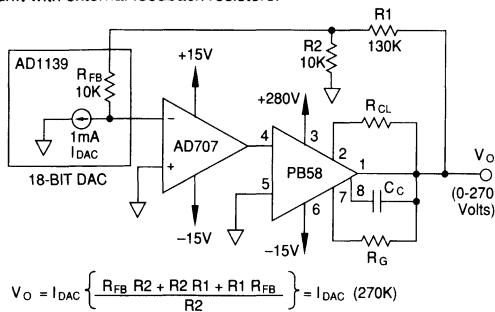

FIGURE 3. HIGH ACCURACY PPS
designer to optimize the circuit for these choices. Figure 3 is an example of a high accuracy PPS. An AD707 is selected as the driver amplifier to provide the extremely low offset required to obtain best possible performance from a high accuracy 18-bit DAC. The divider network on the output, R1 and R2, scale the output swing down to the full-scale range of the DAC. Accuracy will be affected by this divider, necessitating the use of high quality, low temperature coefficient (TC) resistors. If a packaged network can be used, then absolute TC is not nearly as important as TC ratio between R1 and R2. The use of this divider is preferable to the alternative technique of using an external DAC feedback resistor, since using the internal DAC feedback resistor insures the best possible temperature drift performance of the DAC itself. Most DAC's can exhibit up to 300 ppm/°C drift with external feedback resistors.